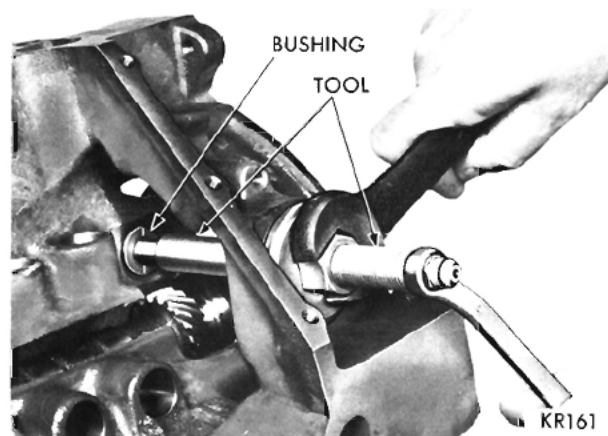
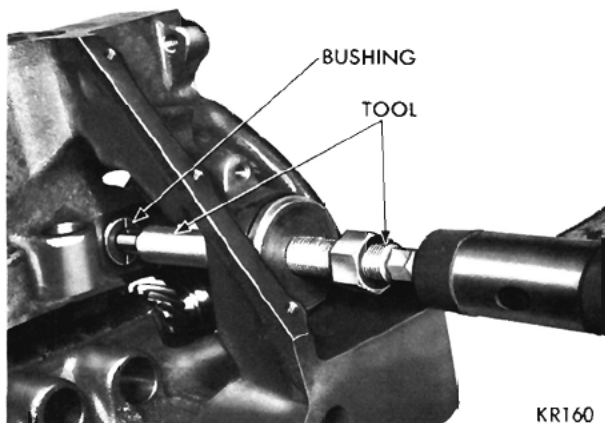

Fig. 98—Burnishing Distributor Drive Shaft Bushing Using Tool C-3053
Fig. 97—Installing Distributor Drive Shaft Bushing Using Tool C-3053
(1) Slide a new bushing over the burnishing end of Tool C-3053 and insert the tool bushing into the bore, as shown in Figure 97.
(2) Drive the bushing and tool into position, using a soft hammer.
(3) As the burnisher is pulled through the bushing by tightening the puller nut, the bushing is expanded tight in the block and burnished to correct size, as shown in Figure 98. **DO NOT REAM THIS BUSHING.**